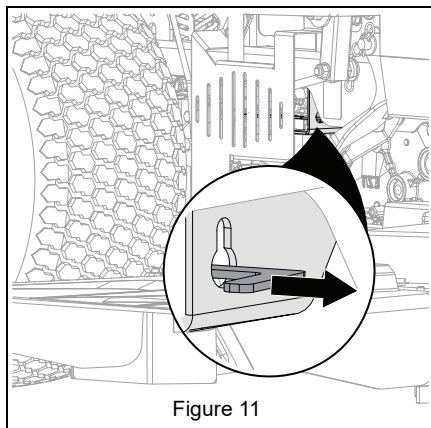

Figure 11
2. Pull both transaxle bypass levers out into bypass position. See Figure 11.